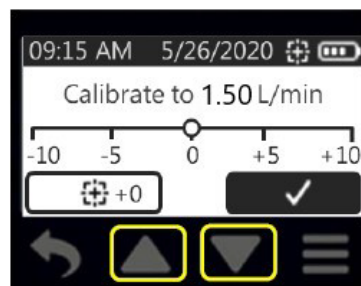

Figure 13. Up/Down Buttons
4. Pump will start running when you touch the calibration icon. Touch up/down arrow buttons to increment/decrement the calibration adjustment (Figure 13).